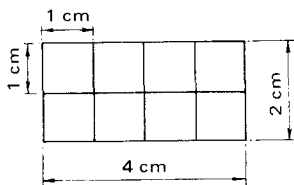

Fig. 1.31
**Area of a rectangle.** The rectangle (Fig. 1.31) has been divided up into 4 rows of 2 squares, each square having an area of 1 square centimetre. The rectangle has, therefore, an area of  $4 \times 2 = 8$  square centimetres. All we have done to find the area is to multiply the length by the breadth. The same rule will apply to any rectangle, hence,